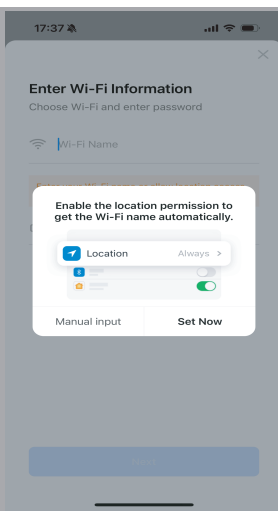
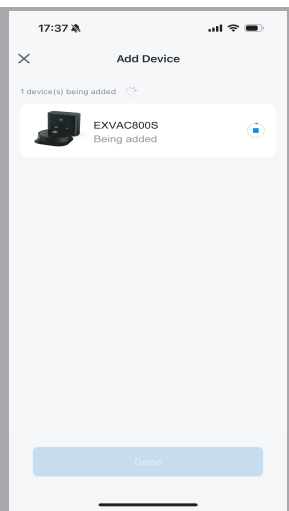

Fig.7
Fig.8
3). Click the device that was founded, and turn on the local permission of your smart device (Fig.7) to get the Wi-Fi name automatically, then input your password and confirm it (Fig.8).